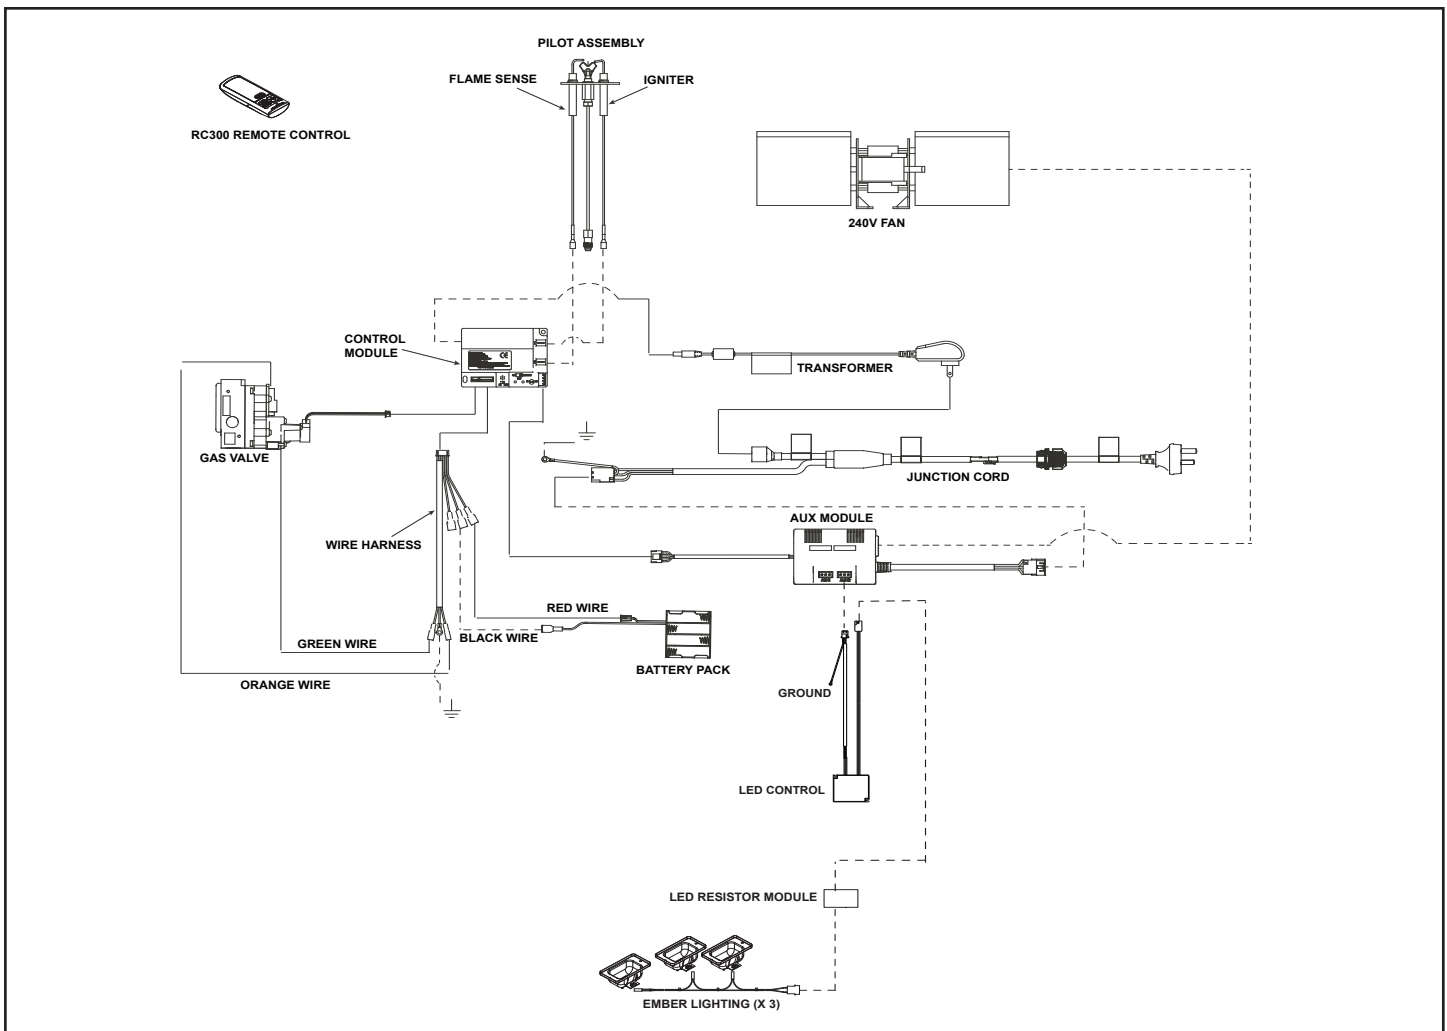

Figure 8.3 IntelliFire™ Plus Wiring Diagram with Remote
- Refer to Figure 8.3, IPI Wiring Diagram.
The junction cord, control module, LED power supply and wall switch receiver can be accessed by removing the vanity panel and component heat shield. The decorative front must be removed to access these components. See Figure 8.3.